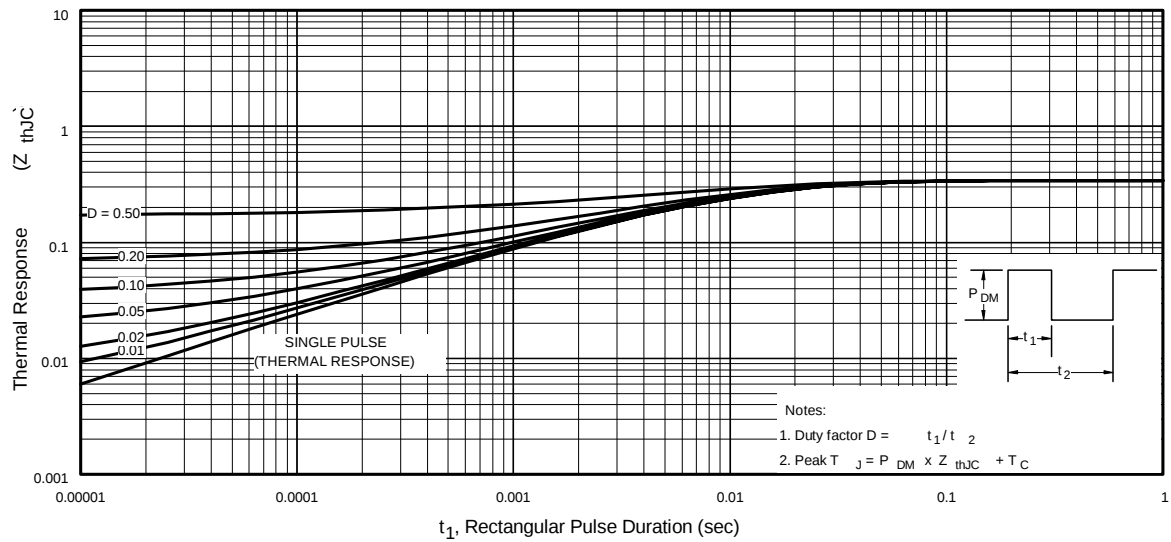

Fig 12. Maximum Effective Transient Thermal Impedance, Junction-to-Case
- ② Starting $T_J = 25^\circ\text{C}$, $L = 1.5mH$, $R_G = 25\Omega$, $I_{AS} = 23A$, $dv/dt = 14V/ns$. (See Figure 12).
- ③ $I_{SD} \leq 23A$, $di/dt \leq 430A/\mu s$, $V_{DD} \leq V_{(BR)DSS}$, $T_J \leq 150^\circ\text{C}$.
④ Pulse width $\leq 300\mu s$; duty cycle $\leq 2\%$.
- ⑤ $C_{oss \text{ eff.}}$ is a fixed capacitance that gives the same charging time as C_{oss} while V_{DS} is rising from 0 to 80% V_{DSS} .